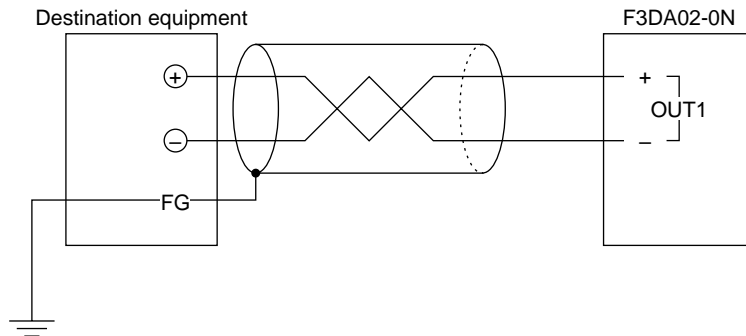

Figure 3.6 Wiring Diagram
- (1) Use a shielded twisted-pair cable to connect the F3AD02-0N module to the destination equipment.
- (2) Ground the shielding wire of the twisted pair cable at the destination equipment as Figure 3.6 shows.